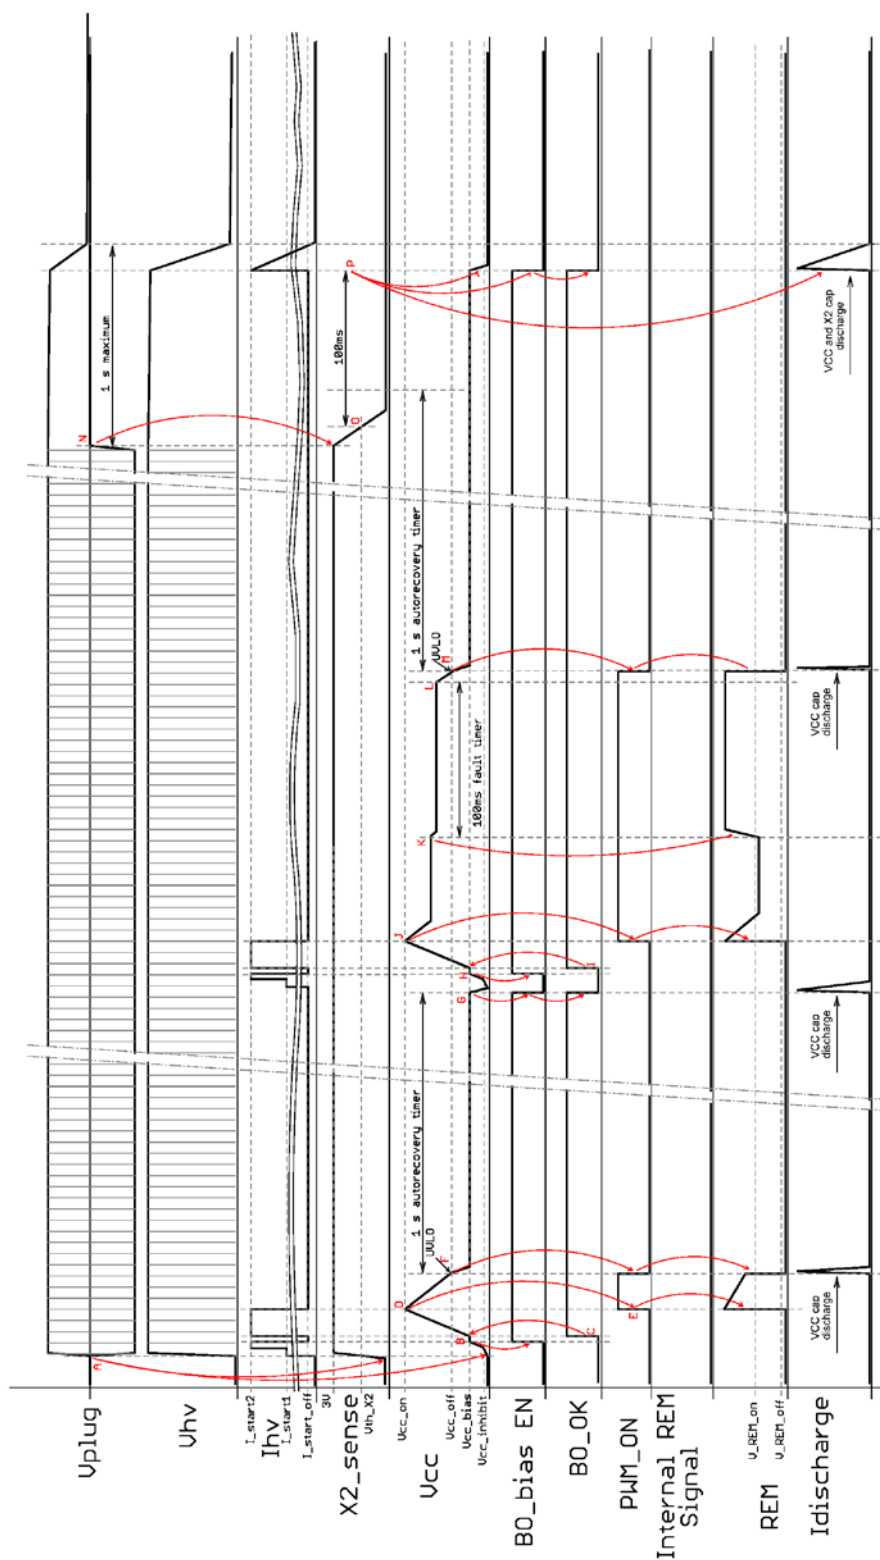

Figure 54. IC Operation Sequencing – Case 4 (Active OFF)
4. Application start into short circuit, auto-recovery restart, overloads then AC line off – Figure 54: